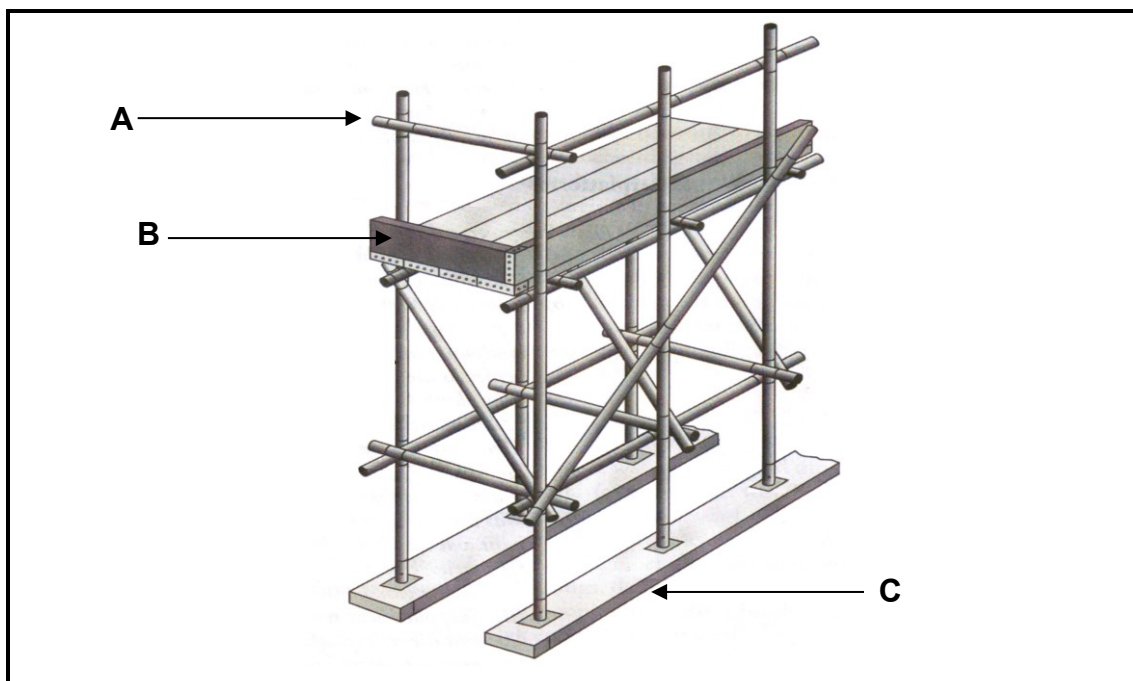

FIGURE 1.4
- 1.4 Answer the following questions with regard to the scaffolding in FIGURE 1.4.